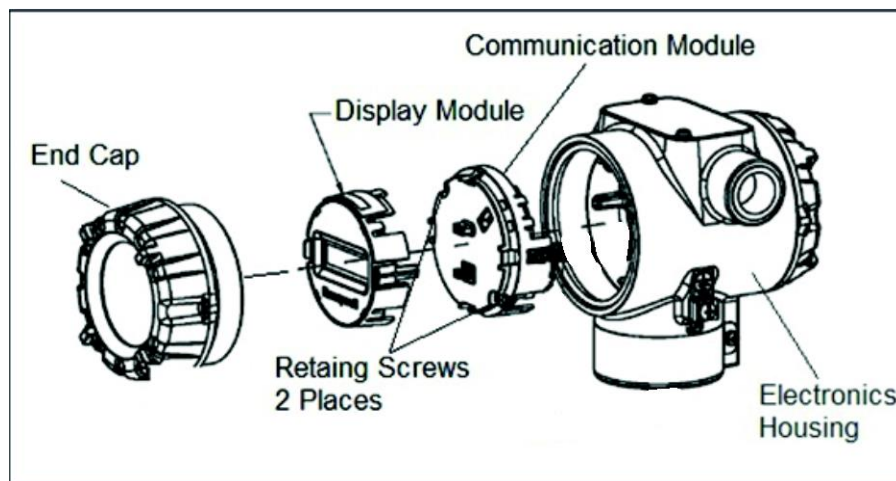

Figure 18 – PWA Replacement
Refer to Figure 18 for parts locations.
15. Install external upgrade label (i.e. DEVICE MODIFIED.....) provided on outside of housing as shown in Figure 18.